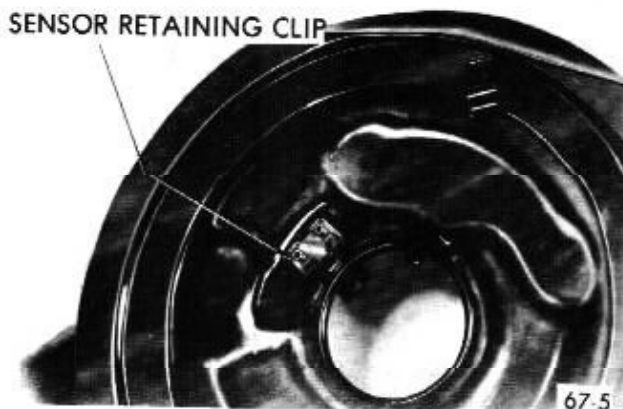

Figure 67-5 - Replacing Sensor Assembly
1. Remove two sensor retaining clips by prying. See Figure 67-5.